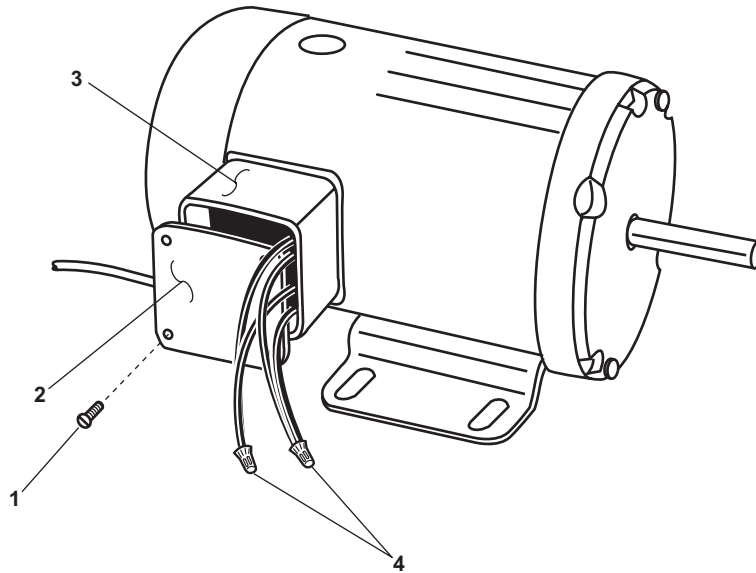

Figure 1. Pump Motor and Junction Box
1. Remove the four screws (figure 1, item 1) and remove the junction box cover (figure 1, item 2) from the junction box (figure 1, item 3).
2. Use a multimeter to check for voltage at the wiring (figure 1, item 4). If voltage is present, ensure that the proper circuit breaker is secured, locked out, and tagged out (FM 55-502). If no voltage is present, continue with the procedure.
3. Label, disconnect, and remove the wiring (figure 1, item 4) from the junction box (figure 1, item 3).